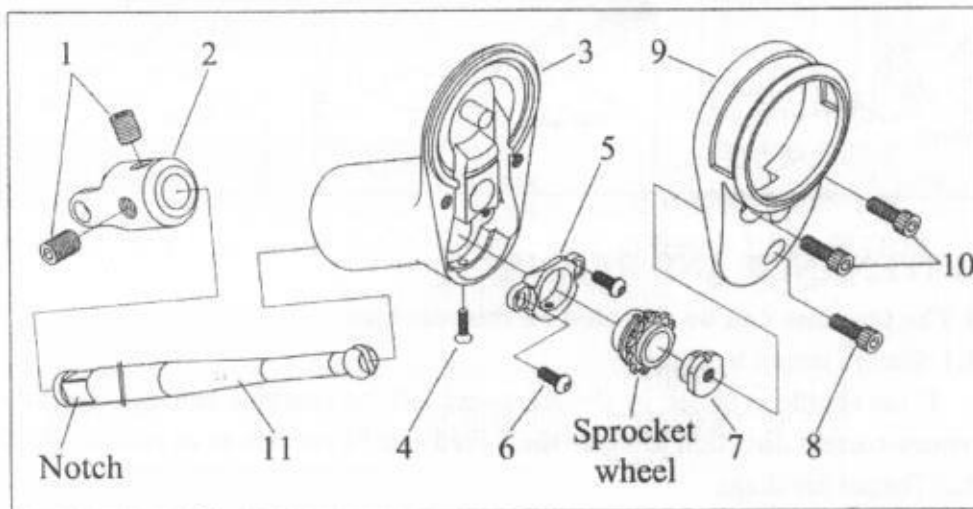

Fig.16
4.8 Adjustment of the Chain and Replacement of the Ball Connecting Rod (Mod. A, Mod. S) Fig.16